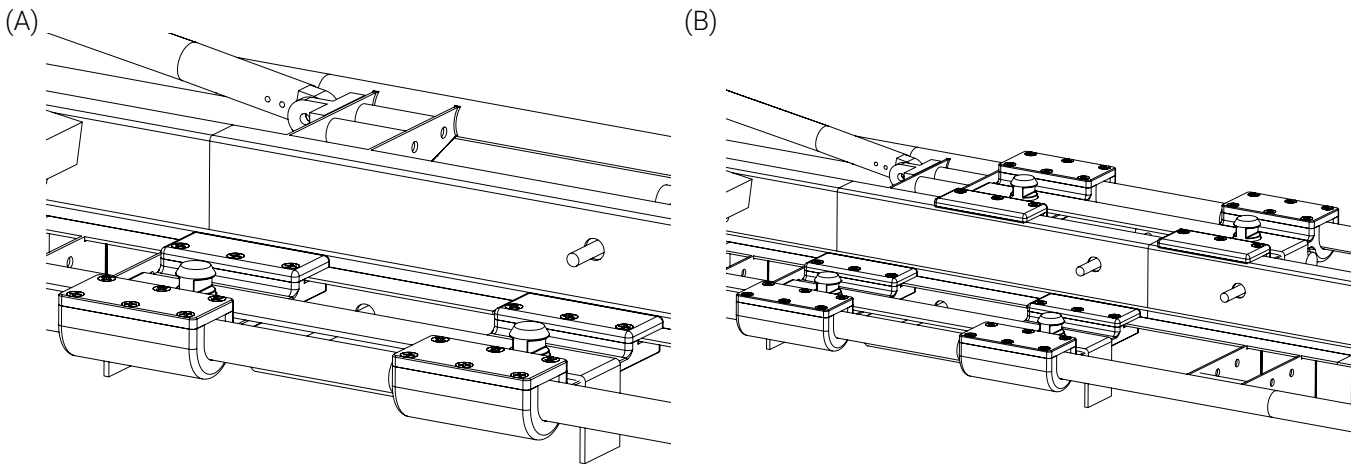

Figure 21: Partial installation of the clamp blocks - Patient left
- Repeat steps 3 to 6 to install the two (2) clamp blocks on patient left (Figure 21).